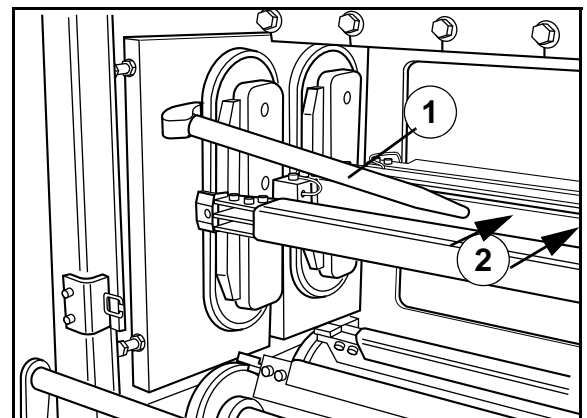

Fig. 35
- 2 Move the sealbars so they are horisontaly in line, see Fig. 35